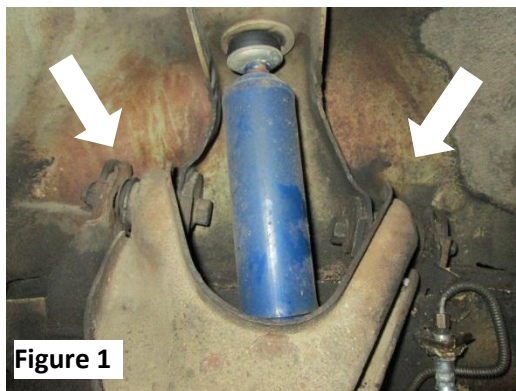

Figure 1
3. Locate and note orientation of the factory cam adjuster bolts on the upper control arms. See **figure 1**.